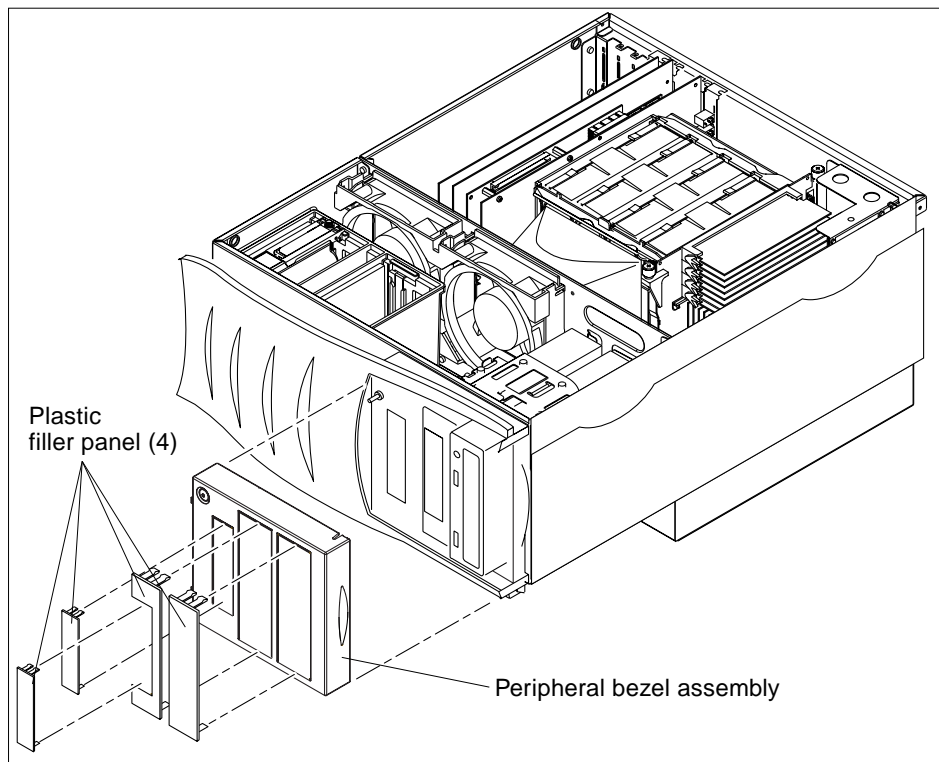

FIGURE 7-15 Removing and Replacing Plastic Filler Panels
2. Remove an filler panel as follows (FIGURE 7-15):
- 2. Position and snap the plastic filler panel into the peripheral bezel assembly (FIGURE 7-15).**